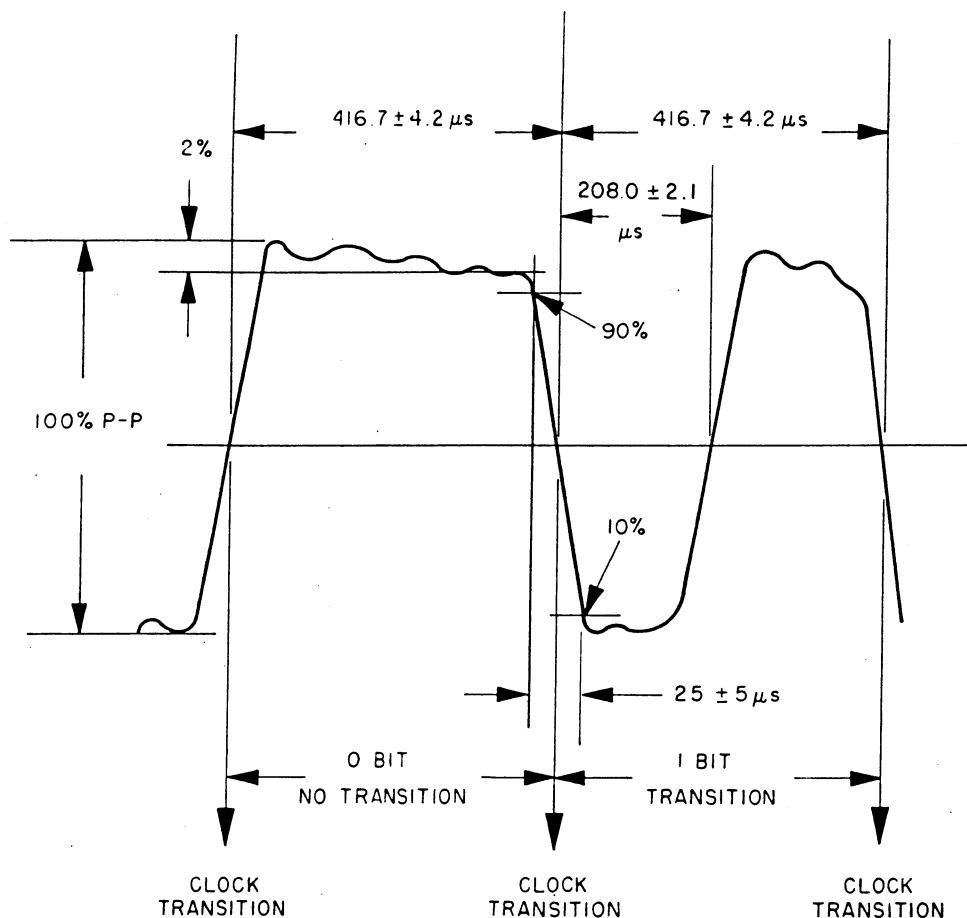

Fig. 1
3.1 Modulation Method. The modulation method shall be such that a transition occurs at the beginning of every bit period. "One" is represented by a second transition one half a bit period from the start of the bit. "Zero" is represented when there is no transition within the bit period. (See Fig. 1.)
3.3 Longitudinal Recorder Input Waveform Characteristics (See Fig. 1.)